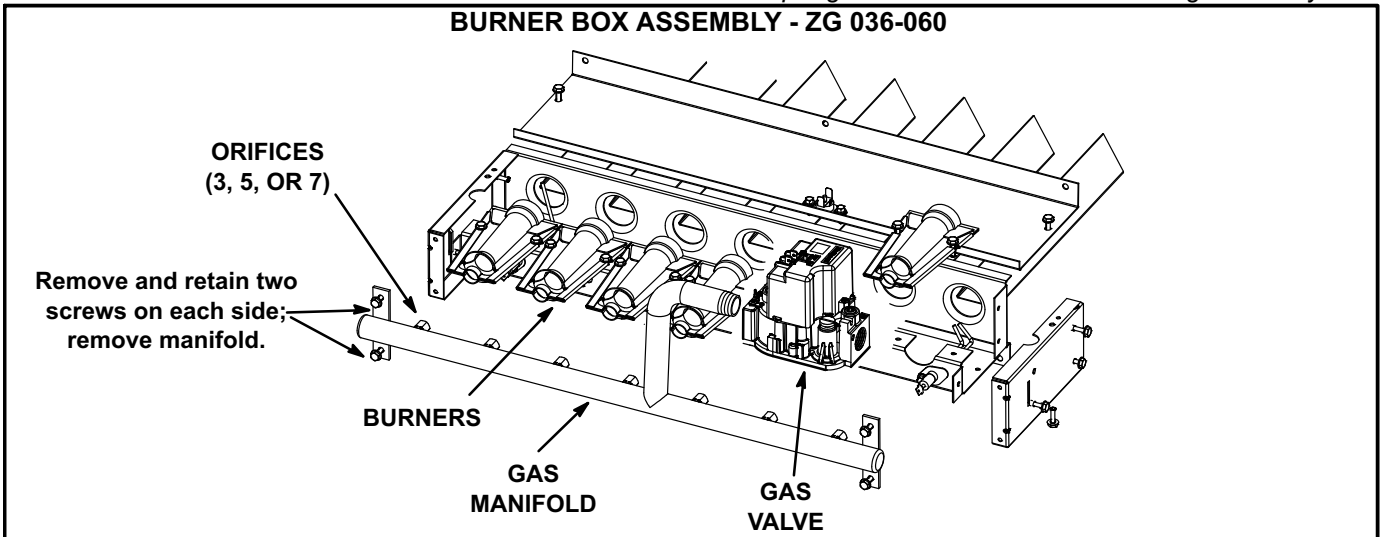

FIGURE 2
- 3- Remove and retain four screws securing manifold to burner box; remove manifold. See figure 2 or 3.